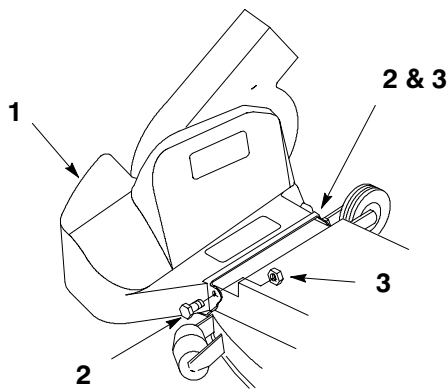

Figure 32
1. Remove the blower belt cover by removing (2) 1/4" lock nuts and 1/4 x 5/8" bolts (Fig. 32).